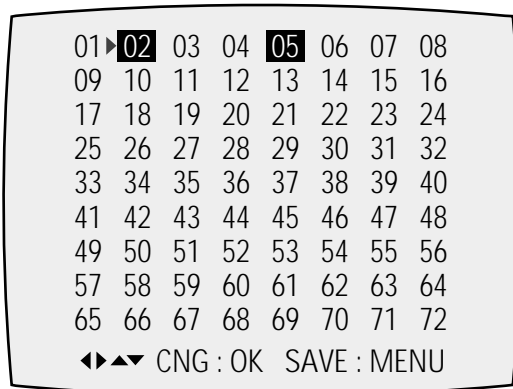

Fig. 5-14
- 2) Press the "MENU" button on the remote control about 5 seconds then option setting display is appeared. (See Fig. 5-14)
- 4) If selecting the option number is completed, press the "OK" button of remote control. (If "OK" button is pressed, the selected number is changes reversed color. ; See Fig. 5-14)